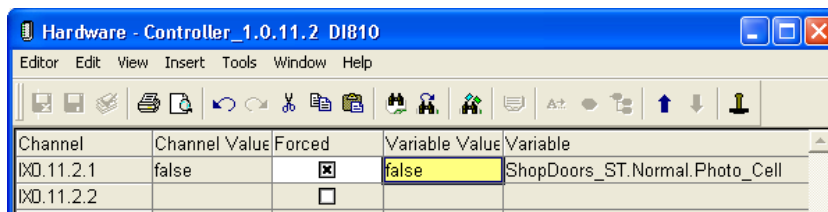

Figure 63. The status of the photocell and the motors can be forced in the I/O editor
3. In the Status tab, check the box in the **Forced** column, see Figure 63. Change the variable `Photo_Cell` value to 1 (true), return quickly to 0 (false) and inspect the motor's values in the online editor (values change to 1 for five seconds and then return to 0).